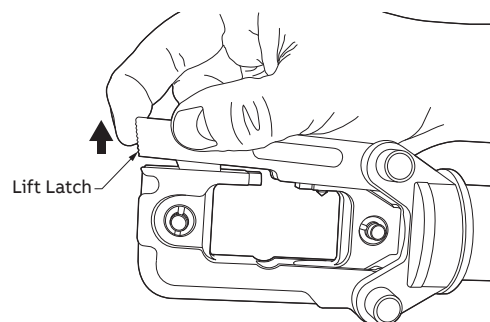

FIGURE 1
2. Open the tool head by lifting the Latch (Figure 1).